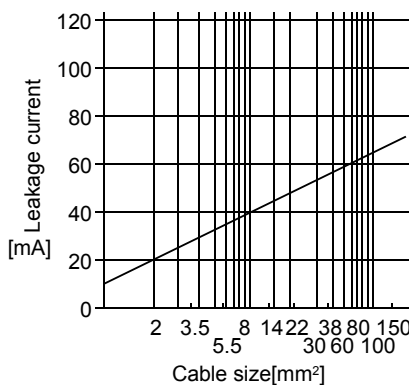

Fig. 12.1 Leakage current example (Ig1, Ig2) for CV cable run in metal conduit
- Ig1:** Leakage current on the electric channel from the leakage current breaker to the input terminals of the servo amplifier (Found from Fig. 12.1.)
Ig2: Leakage current on the electric channel from the output terminals of the servo amplifier to the servo motor (Found from Fig. 12.1.)